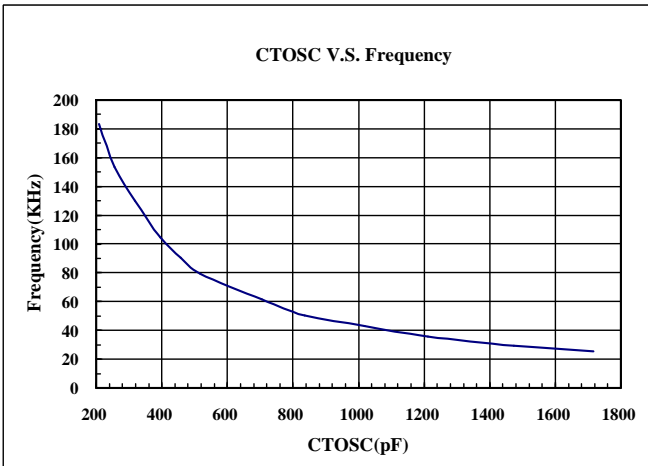

Fig.3
Equation (1) is valid only when VDD=5.0V, temperature=40°C and frequency ≈ 80K ~ 120 KHz. Fig. 3 shows the relationship between CTOSC frequency and external capacitor.